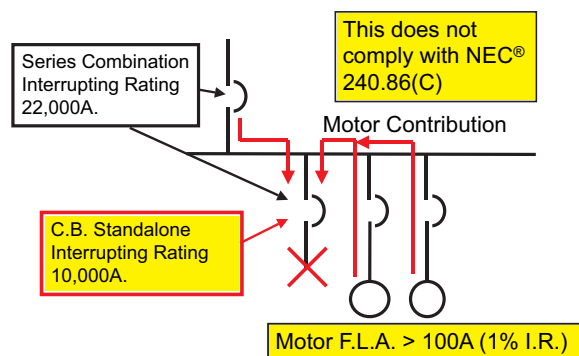
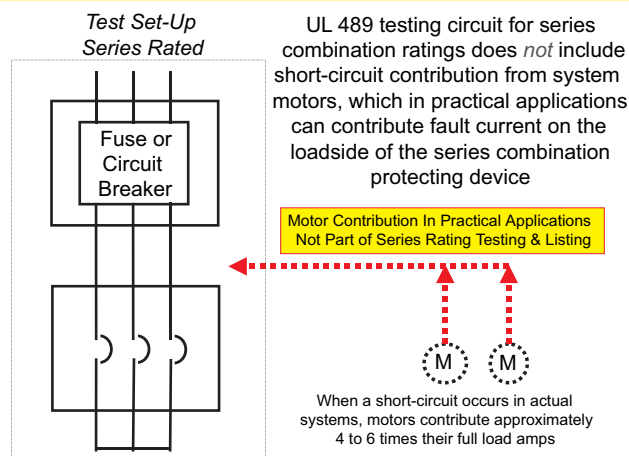

Figure 5
Figure 6
This is a major limitation. It is critical for initial installations but in addition, future system changes can negate the series combination rating. Where motors are connected between the line side (protecting) device and the load side (protected) circuit breaker, 240.86(C) has a critical limitation on the use of series rated combinations. This section requires that a series rated combination shall not be used where the sum of **motor full load currents exceeds 1% of the load side (protected) circuit breaker's individual interrupting rating**. See Figure 5. The reason is that when a fault occurs, running motors momentarily contribute current to the short circuit (usually about four to six times their full load rating). This added motor contribution results in a short-circuit current in excess of what the loadside (protected) circuit breaker was tested to handle in relation to the lineside (protecting) device per the series rated combination testing. See Figure 6.